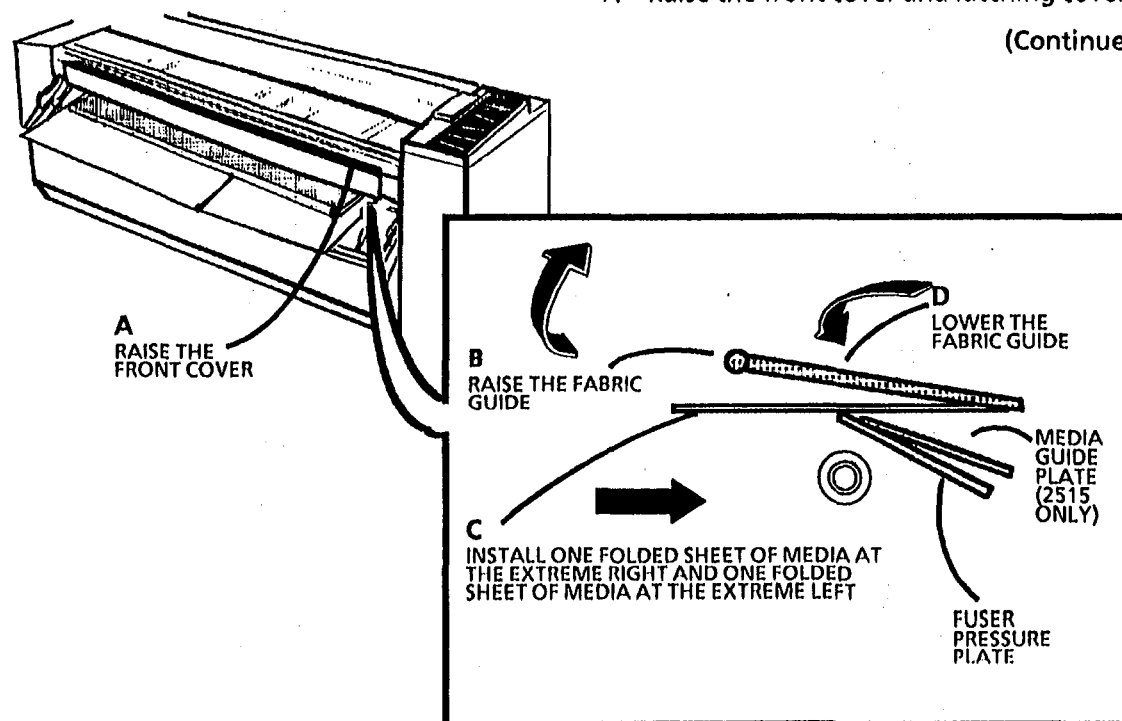

Figure 1. Installing the Media Under the Fabric Guide
3. (Figure 1) : Install the 2 sheets of media under the full length of fabric guide, with the sheets overlapping in the center.